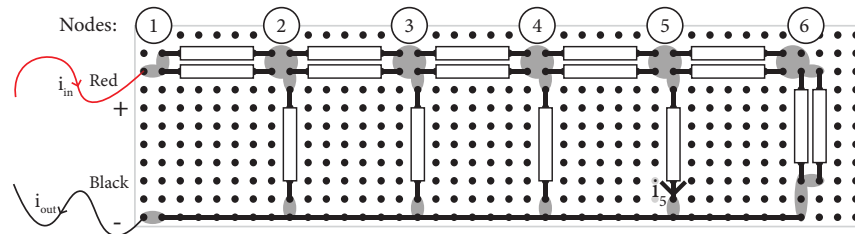

Figure 1.9: Ladder network including six nodes.
3. With a digital multimeter, measure the voltages on all nodes of the network (found in Figure 1.9) with respect to the '-'. Write them down in your logbook, in a table.
5. Ask the TA of your group to explain this part first to you and firstly check your circuit before you turn on the voltage supply. With a digital multimeter, measure the currents through both of the input wires of the ladder network,  $i_{in}$  and  $i_{out}$  as indicated in Figure 1.9. Compare them.
8. Calculate the current  $i_5$  as indicated in Figure 1.9. Can you compare the value of the current from the previously done voltage measurements?